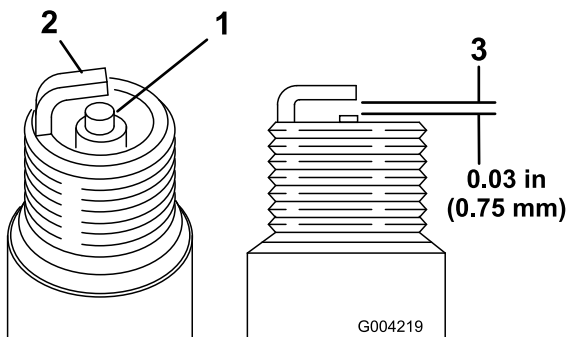

Figure 35
1. Look at the center of both spark plugs (Figure 35). If you see light brown or gray on the insulator, the engine is operating properly. A black coating on the insulator usually means the air cleaner is dirty.
2. Check the gap between the center and side electrodes (Figure 35).
3. Bend the side electrode (Figure 35) if the gap is not correct.